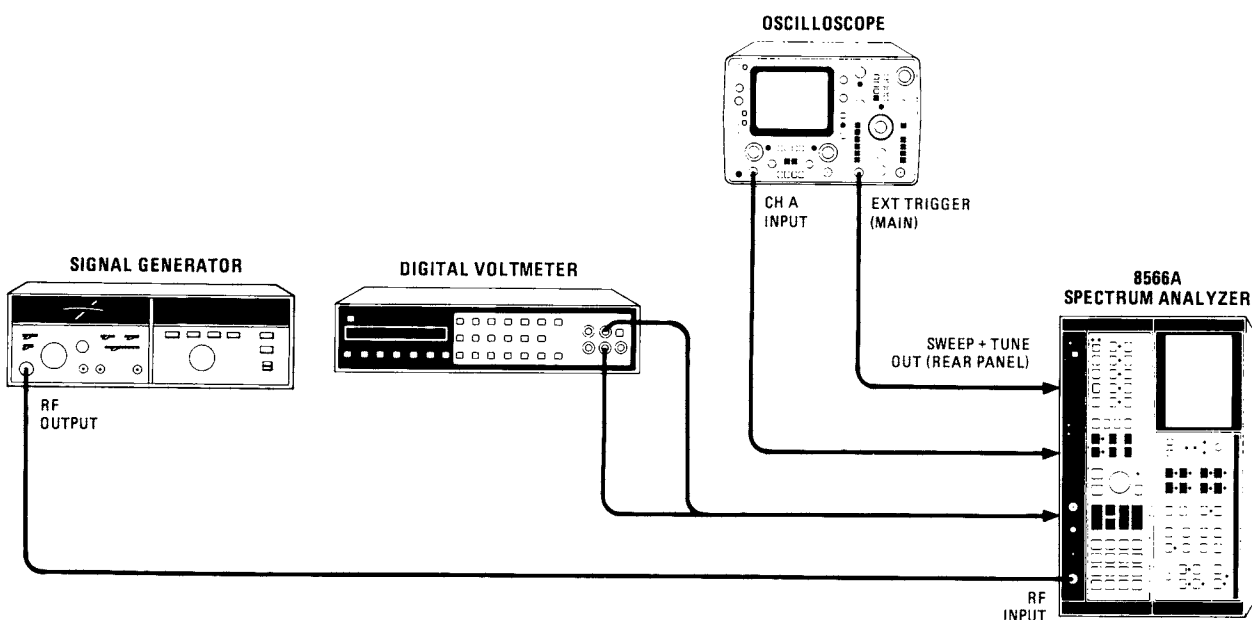

Figure 5-40. Sweep and DAC Adjustments Setup
Equipment listed is for three setups: Figure 5-40, 5-45, and 5-46.
1. Position instrument on right side as shown in Figure 5-40 with bottom cover removed. Remove cover over A12 through A16 PC Boards. Jumper A12TP2 to A12TP3 (Lock Indicator Disable).